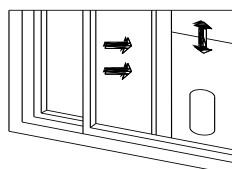

Figure 5
- 2). Half open the window and mount the window frame adaptor board onto the window frame, either vertically or horizontally (as shown in Figure 5 and 6).